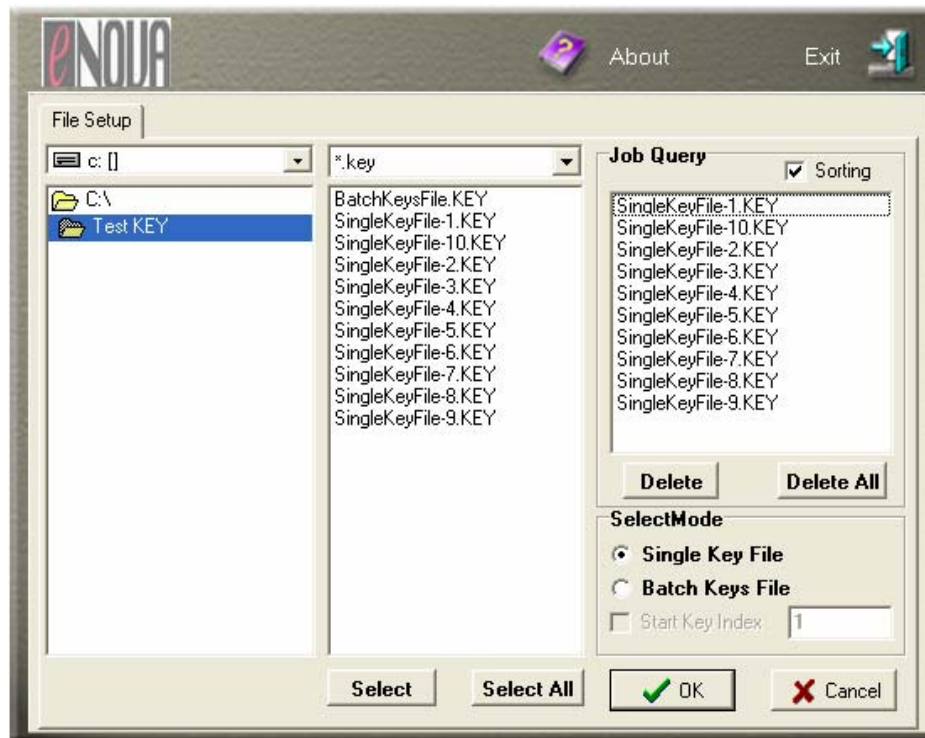

Figure 22. Load Multiple Key Files
- (c) As shown in Figure 22, click  to load all key files. You can load all key files and check the “Single Key File” check box under “SelectMode.”